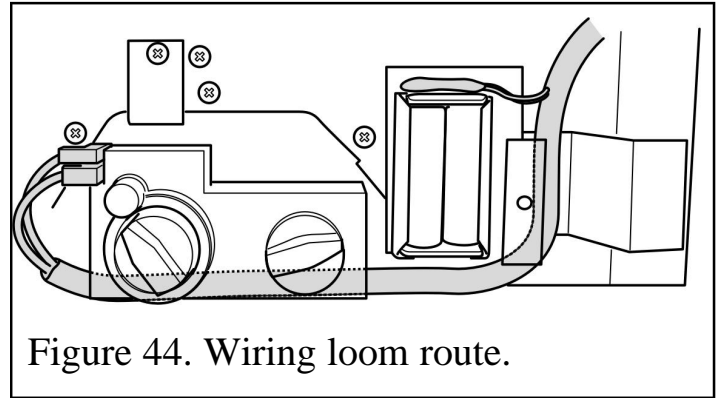

Figure 44. Wiring loom route.
- When replacing, make sure that the wiring loom runs above and to the right of the battery box and behind the control valve (See figure 44). The motor lead connectors are two different sizes. They will only fit to
- When replacing, make sure that the wiring loom runs above and to the right of the battery box and behind the control valve (See figure 44). The motor lead connectors are two different sizes. They will only fit to the correct motor terminals.
wiring loom runs above and to the right of the battery box and behind the control valve (See figure 44). The motor lead connectors are two different sizes. They will only fit to the correct motor terminals.